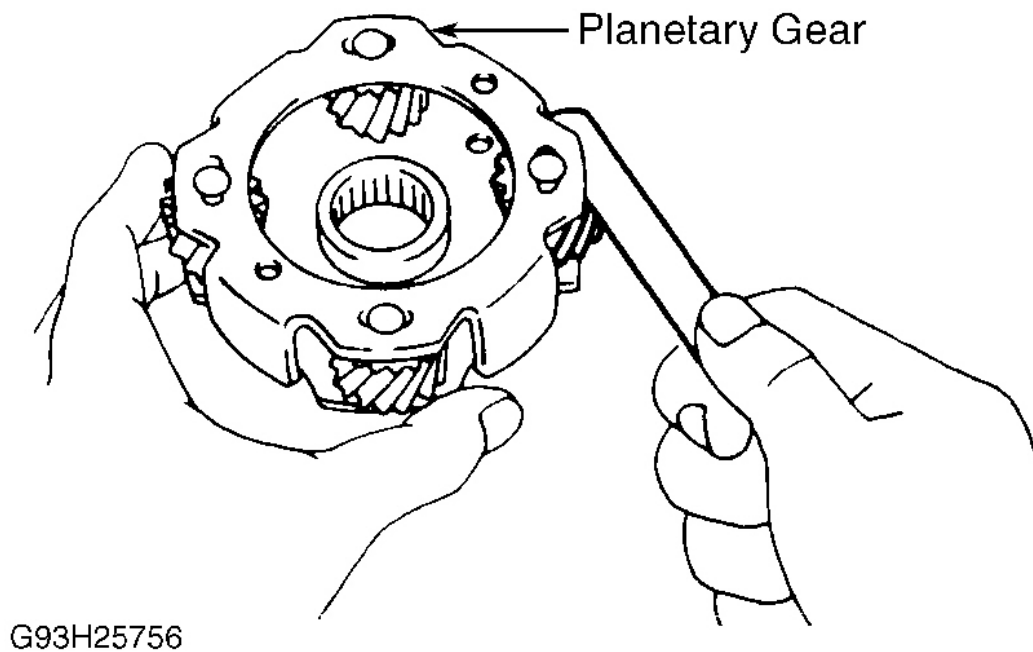

Fig. 25: Measuring Planetary Pinion Gear Thrust Clearance
2. Measure planetary pinion gear thrust clearance. Standard clearance is .0063-.0220" (.160-.560 mm). See **Fig. 25**. Maximum clearance is .024" (.61 mm). If clearance exceeds specification, replace planetary gear assembly.